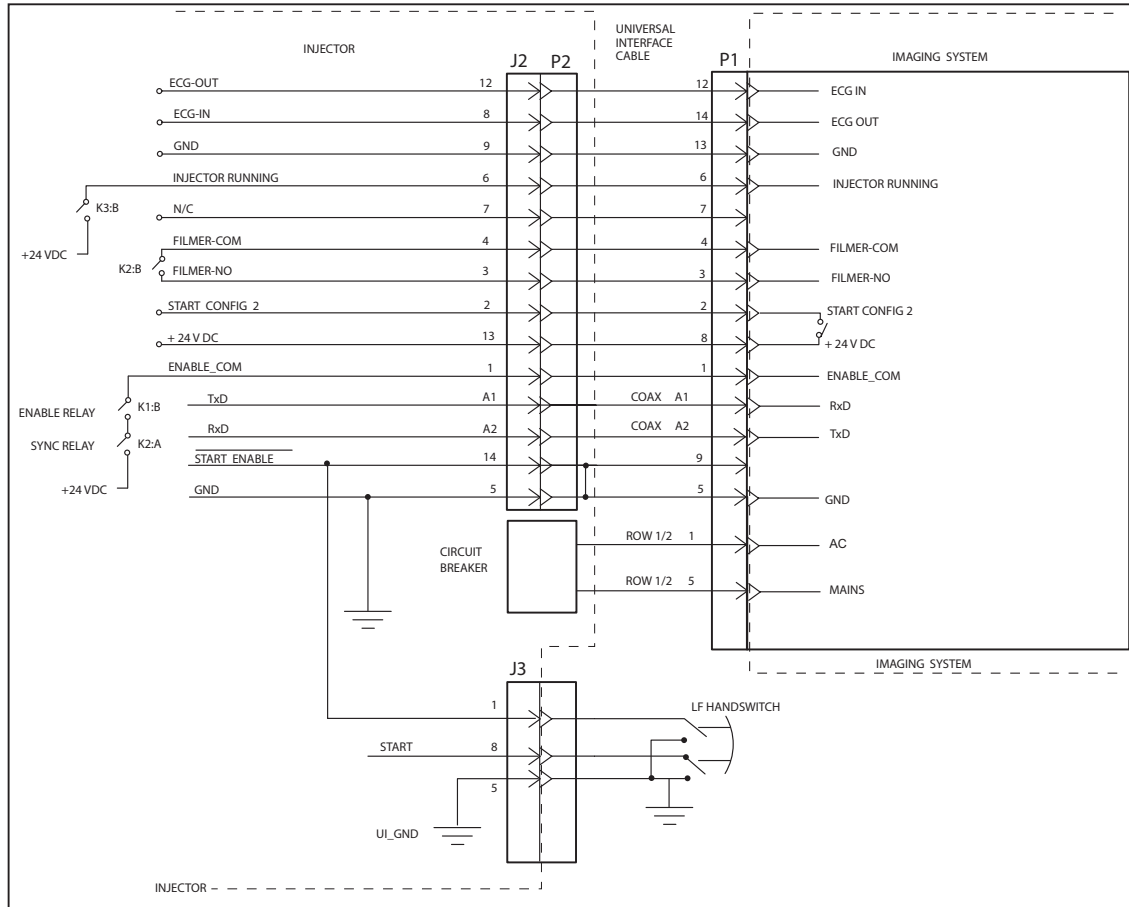

Figure 2-9-3 Single Cable Universal Interface (UI)
The Single Cable Universal Interface (UI) Port in the Angioma[®] Illumena Contrast Delivery System allows you to link the injector to the imaging system or synchronization, control, and to exchange status information. This interface allows the injector and imaging system to trigger each other, and it provides status and control lines between the injector and imaging system. Additionally, the Single Cable Universal Interface provides the mains power to the injector. The following is a summary of the connections possible with the Single Cable Universal Interface. A general wiring diagram is shown in Figure 2-9-3.
The Single Cable Universal interface carries the mains power on P1:1 and P1:5, as shown in Figure 2-9-3.